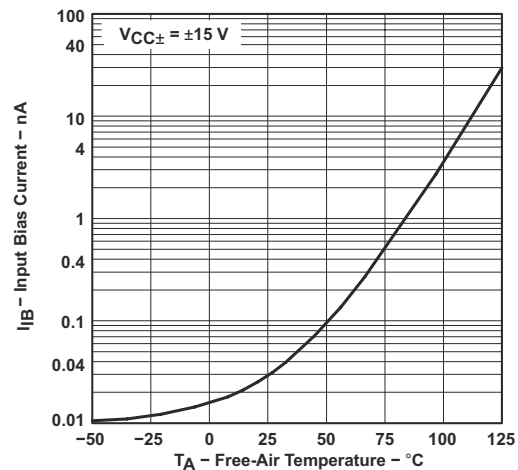

Figure 6-12. Input Bias Current vs Free-Air Temperature
- (1) All characteristics are measured under open-loop conditions with zero common-mode input voltage unless otherwise specified. Full range for T_A is 0°C to 70°C for TL06xC, TL06xAC, and TL06xBC and -40°C to 85°C for TL06xI.
- (2) Input bias currents of an FET-input operational amplifier are normal junction reverse currents, which are temperature sensitive, as shown in Figure 6-12. Pulse techniques are used to maintain the junction temperature as close to the ambient temperature as possible.
- (3) Specified by design and characterization; not production tested.
- (1) All characteristics are measured under open-loop conditions with zero common-mode input voltage, unless otherwise specified. Full range for T_A is 0°C to 70°C for TL06xC, TL06xAC, and TL06xBC and -40°C to 85°C for TL06xI.
- (3) Assured by design and characterization; not production tested.
(1) This parameter is not production tested.
(2) All characteristics are measured under open-loop conditions, with zero common-mode voltage, unless otherwise specified.
(3) Input bias currents of an FET-input operational amplifier are normal junction reverse currents, which are temperature sensitive, as shown in Figure 6-12. Pulse techniques are used to maintain the junction temperature as close to the ambient temperature as possible.
(4) Specified by design and characterization; not production tested.